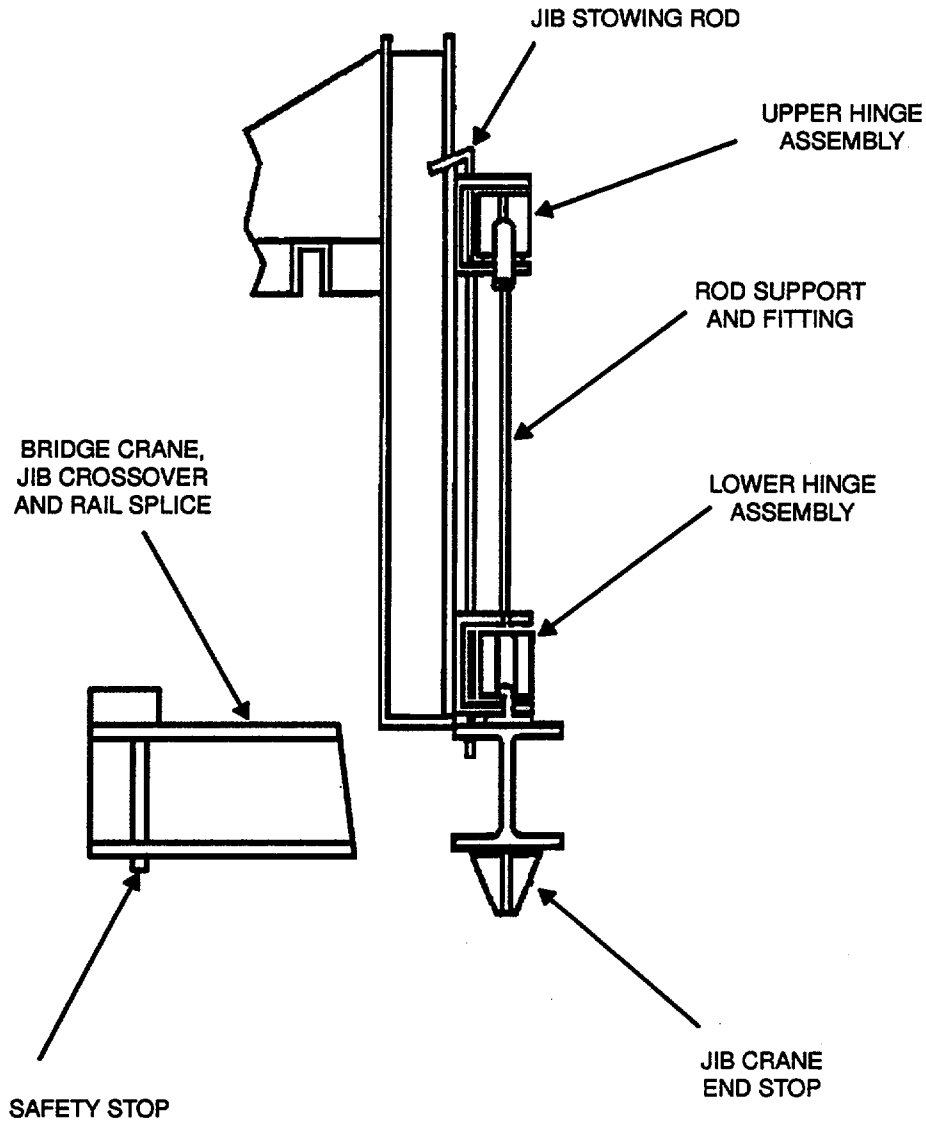

Figure 2-4 . Bridge Crane Jib Rail (Stowed Toward Aft)
**2-9 General.** After load to be moved is securely in place, it can be moved forward and aft by using the electrical hand control. The load can be moved sideways on the bridge crane by manually operating the trolley chain that controls trolley lateral movement. The load can then be raised or lowered by manually operating the trolley chain that controls hoist movement. If desired, the load can be transported from the portside crane to the starboard side by using the crossover assemblies. Loading or unloading can be accomplished through the starboard side sliding door by using the jib rail. The jib rail is shown in Figure 2-4.